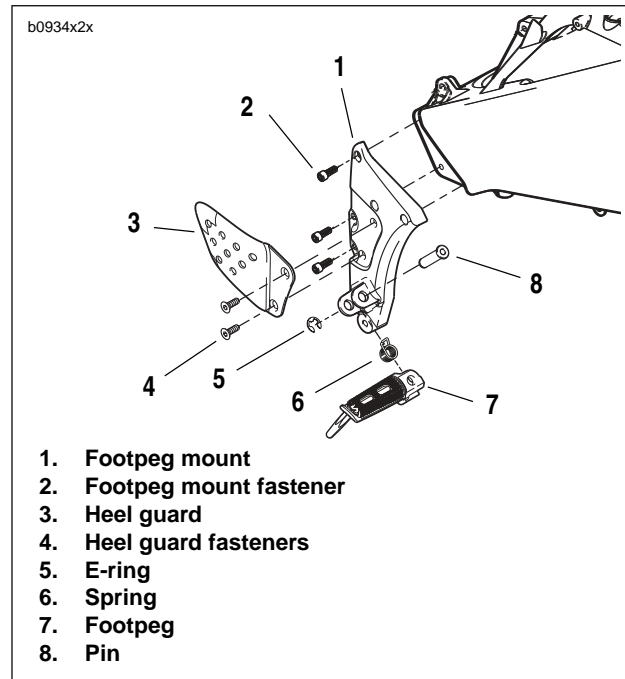

Figure 2-100. Rider Footpeg, Mount and Heel Guard Assembly
1. See Figure 2-100. Remove e-ring (5).
2. Remove footpeg pin (8).
3. Remove footpeg (7).
1. See Figure 2-100. Remove heel guard fasteners (4).
2. Remove heel guard (3).
1. See Figure 2-100. Remove footpeg mount fasteners (2).
2. Remove footpeg mount (1).
1. See Figure 2-100. Install e-ring (5).
2. Position footpeg (7) on to footpeg mount (1).
3. Install footpeg pin (8).
1. See Figure 2-100. Position heel guard (3) onto footpeg mount (1).
2. Install heel guard (3) with fasteners (4). Tighten to 72-96 **in-lbs** (8-11 Nm).
1. See Figure 2-100. Position footpeg mount (1).
2. Install footpeg mount with fasteners (2). Tighten to 108-132 **in-lbs** (12-15 Nm).